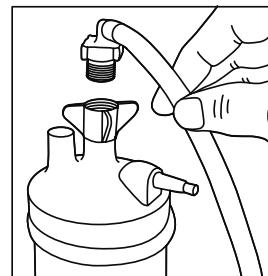

Figure 1
5. Attach the humidifier bottle adapter tube to the humidifier bottle by turning the wing nut on the bottle counterclockwise until it is fastened securely (see Figure 1).